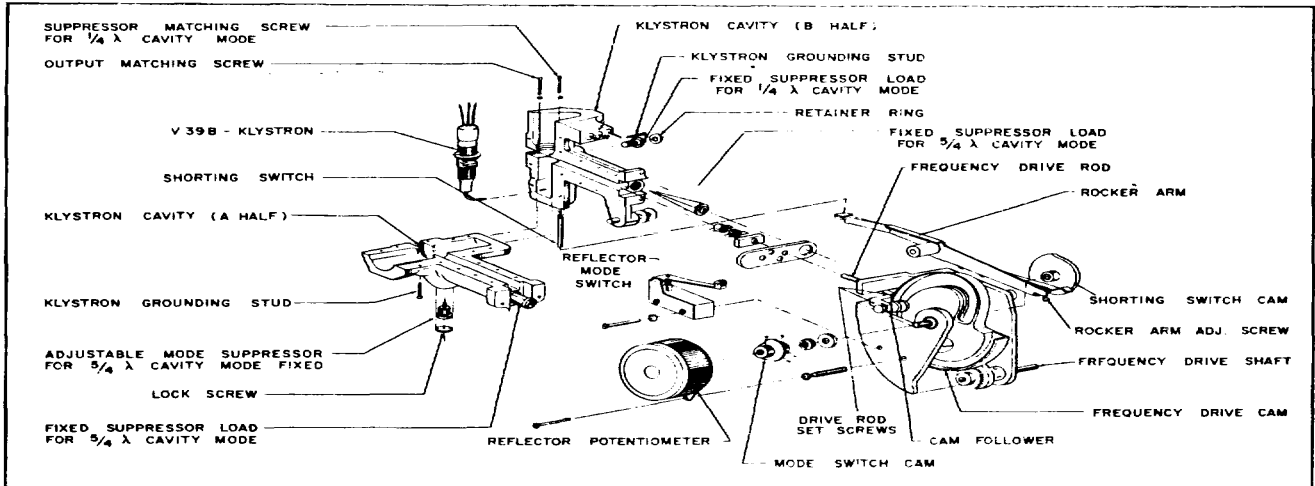

Figure 5-5. Exploded View of Klystron Cavity and Plunger Drive Mechanism
5-35. To better understand the relationship of parts in the klystron cavity and drive mechanism refer to Fig 5-4 and Fig 5-5.
f. Set frequency dial near high frequency end. Where plunger rod is accessible, loosen setscrews holding plunger rod to cam follower (refer to Figure 5-5).